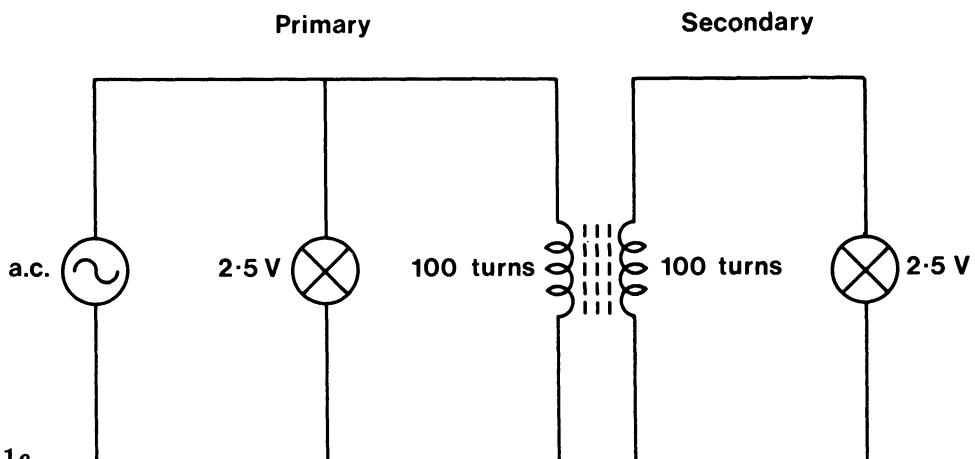

FIG. 1.21c
7. Now connect the transformer to the signal generator as shown in Fig. 1.21c.
9. Take off 50 turns of wire from the secondary and now with only 50 turns on the secondary connect the circuit up again as in Fig. 1.21c. Again with the bulbs removed, check the voltage across the primary and secondary with the avometer. The voltage on the secondary should be roughly half that across the primary. Put the bulbs in and observe that the bulb in the secondary is dimmer than that in the primary. Taking turns off the secondary *reduces* the output voltage. Putting turns on the secondary *increases* the output voltage. In fact,